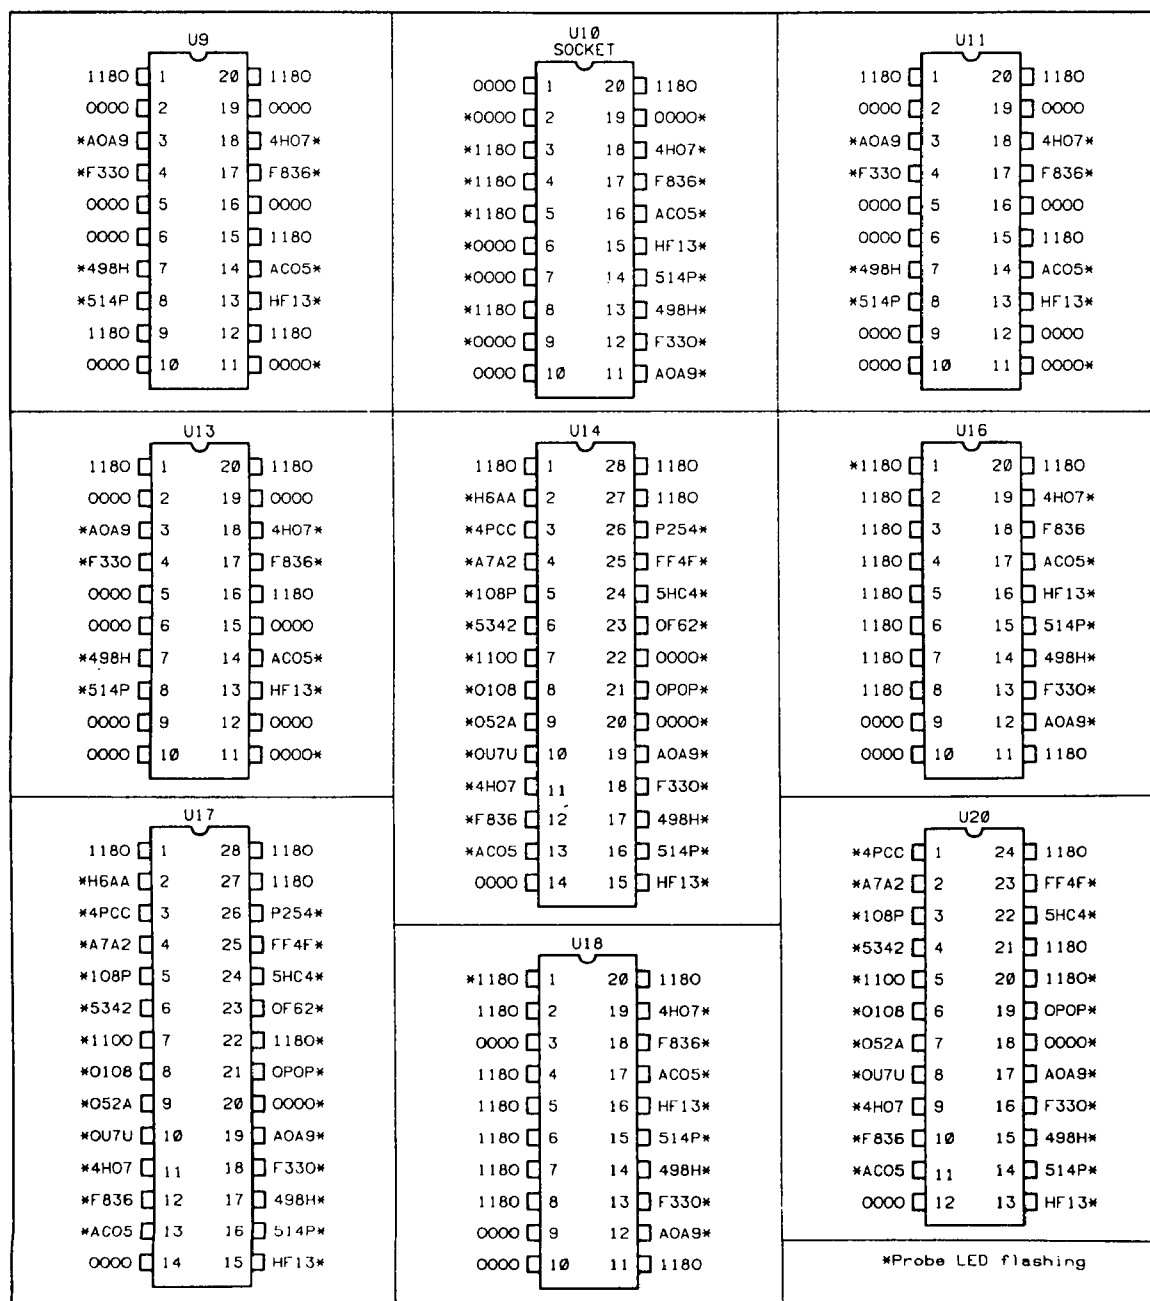
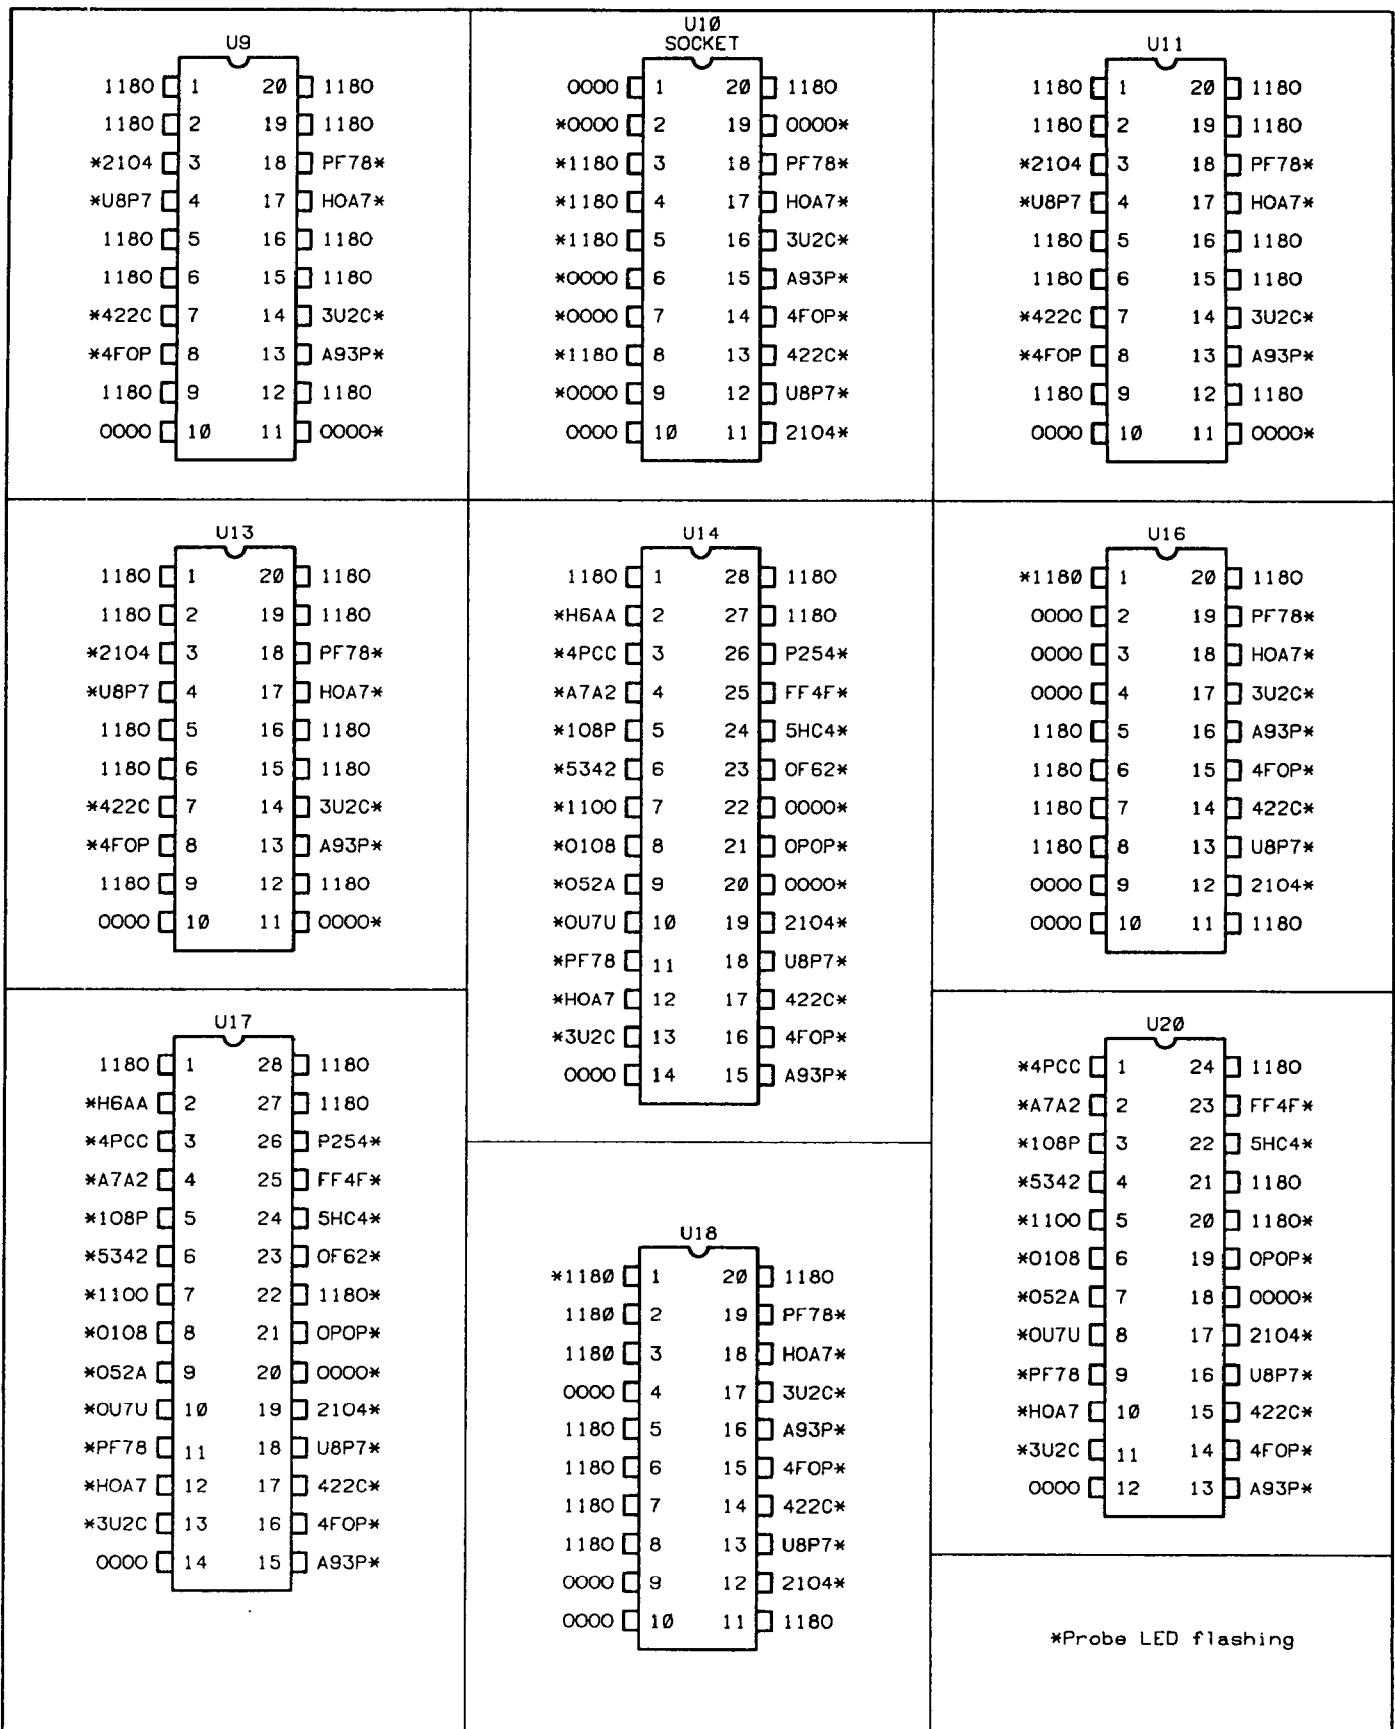

Figure 8-31A. 5350B/5351B A4 Signatures for Mode 1, Setup 3
Figure 8-31B. 5352B A4 Signatures for Mode 1, Setup 3
3. Power on the counter and verify the signatures shown in *Figure 8-31A* for the 5350B/5351B, or *Figure 8-31B* for the 5352B.